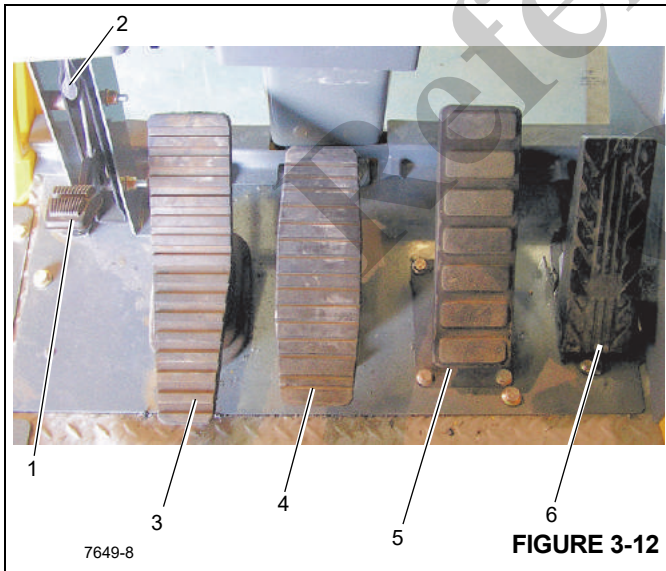

Figure 3-12 Item Numbers
The 360° Swing Lock Pedal (1) (Figure 3-12) is located on the left side of the crane cab floor. The pedal is used to activate the swing lock to prevent the turret from turning. To release the swing lock, pull up on the 360° Swing Lock Release Lever (2).
The Swing Brake Pedal (3) (Figure 3-12) is located on the left side of the cab floor. The swing brake pedal is used to actuate the swing brake to slow or stop swing motion. Braking is proportional to pedal depression. With the pedal not depressed and the swing brake control valve disengaged, hydraulic pressure is applied to the brake, overcoming spring pressure and releasing the brake. Depressing the pedal actuates a swing power brake valve to apply pressure to the brake assembly. This pressure aids the spring pressure to overcome the hydraulic pressure being applied to the brake release circuit and applies the spring brake according to the pressure from the swing power brake valve.
The Telescope Control Foot Pedal (4) (Figure 3-12) is supplied when the crane is equipped with an auxiliary hoist, is located on the left side of the cab floor. Pushing forward on the top of the pedal will extend the boom and pushing down on the bottom of the pedal will retract the boom.
The Brake Foot Pedal (5) (Figure 3-12) is the second pedal from the right on the cab floor. Depressing the pedal controls the application of the service brakes.
The Foot Throttle Pedal (6) (Figure 3-12) is located under the RCL display module, on the floor. It is used to control engine RPM which increases or decreases proportionately with the amount of foot pressure applied to the pedal. The pedal is electrically connected to the superstructure control module which sends the signal to the engine ECM via the J1939 data link.